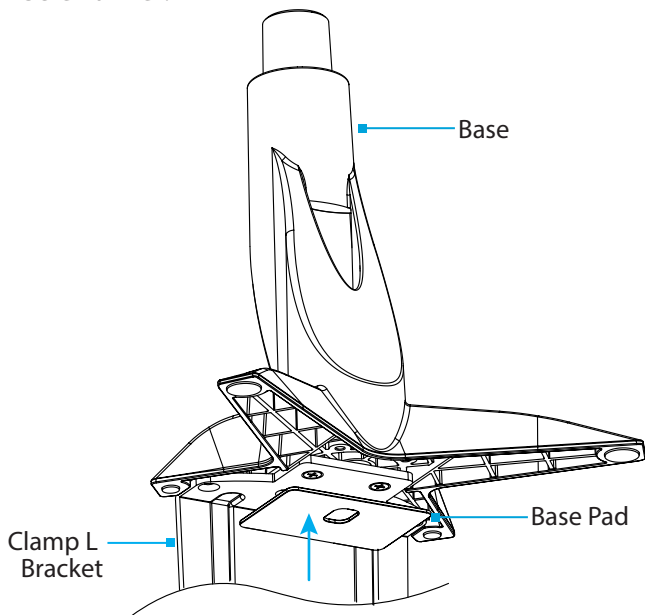

Figure 5
3. Remove the **Adhesive Backing** from the **Base Pad** and affix the **Base Pad** to the underside of the **Clamp L Bracket** to complete the **Base Assembly**. (Figure 5)